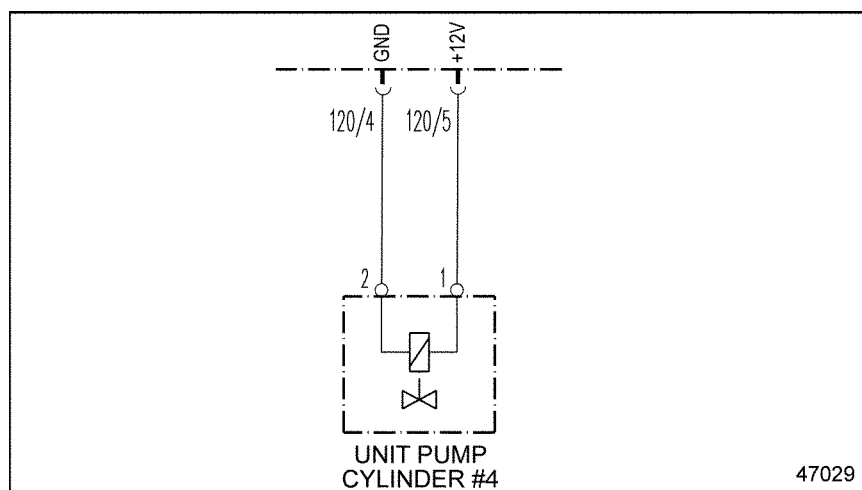

Figure 47-2 Electronic Unit Pump #4
3. Disconnect pins 1 and 2 of Electronic Unit Pump #4. See Figure 47-2.